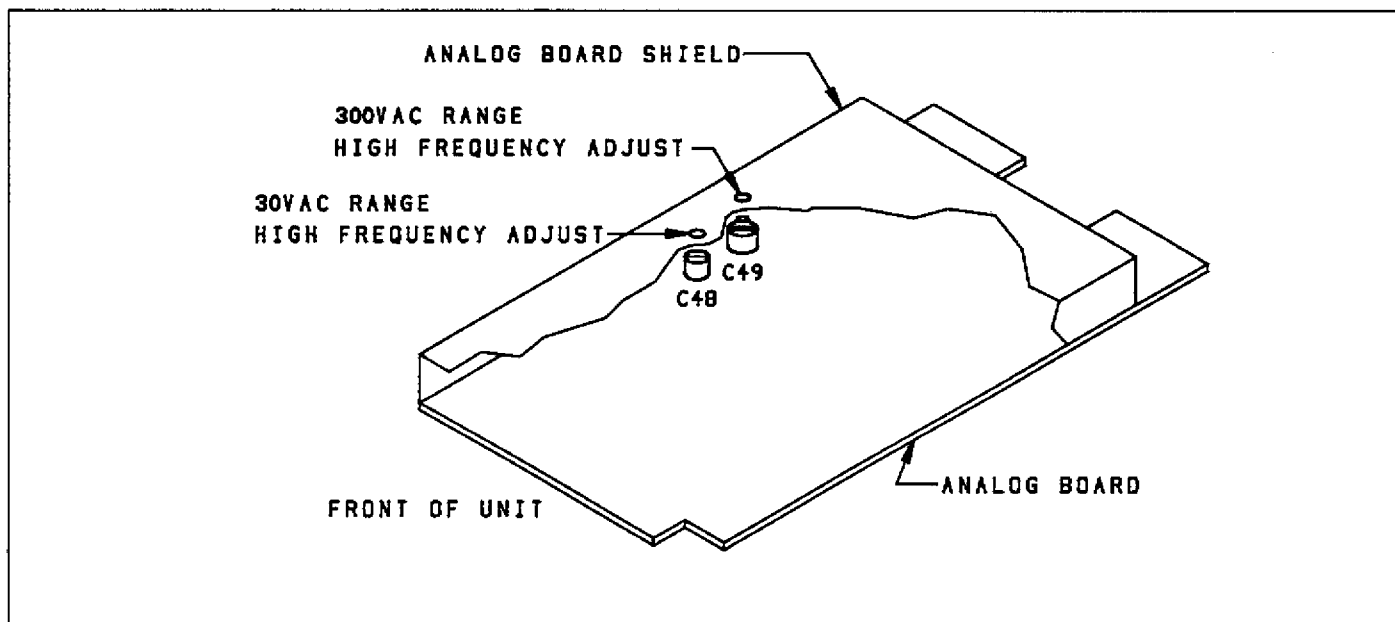

Figure 6-7. TRMS AC Volts High Frequency Calibration Adjustments (30V & 300V Ranges)
- D. After allowing sufficient time for the measurement to settle, use an insulated alignment tool to adjust C49 (see Figure 6-7) for a display reading of 100.000V ±250 counts.